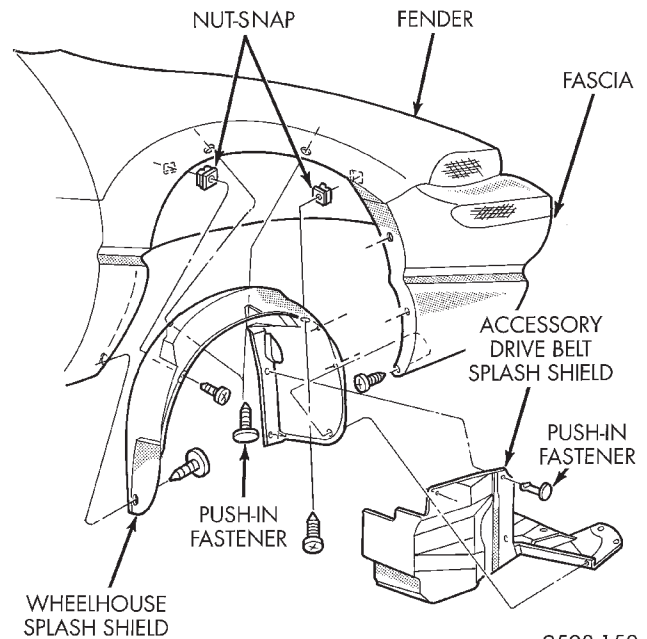

Fig. 16 Right Inner Splash Shield
- (2) Disconnect and remove battery and tray. Set Powertrain Control Module (PCM) aside.
- (3) Drain cooling system. Refer to Group 7, Cooling System for procedure.
- (4) Remove upper radiator hose, radiator and fan module. Refer to Group 7, Cooling System for procedure.
- (5) Remove lower radiator hose.
- (6) Disconnect automatic transmission cooler lines and plug. If equipped.
- (7) Disconnect clutch cable (Manual) and transmission shift linkage.
- (8) Disconnect throttle body linkage.
- (9) Disconnect engine wiring harness.
- (10) Disconnect heater hoses.
- (11) Discharge Air Conditioning System. Refer to Group 24, Air Conditioning for procedure.
- (12) Hoist vehicle and remove right inner splash shield (Fig. 16).